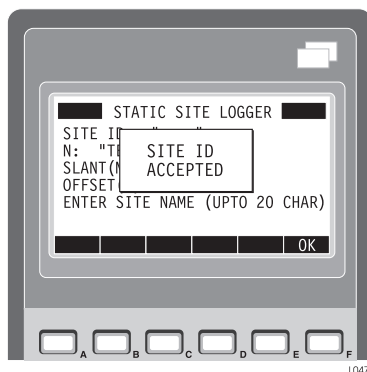

Figure 3.35: Site ID Accepted Message
15. Press the **F (OK)** key to log the static site data into the D-file. The display indicates **SITE ID ACCEPTED** (Figure 3.35).